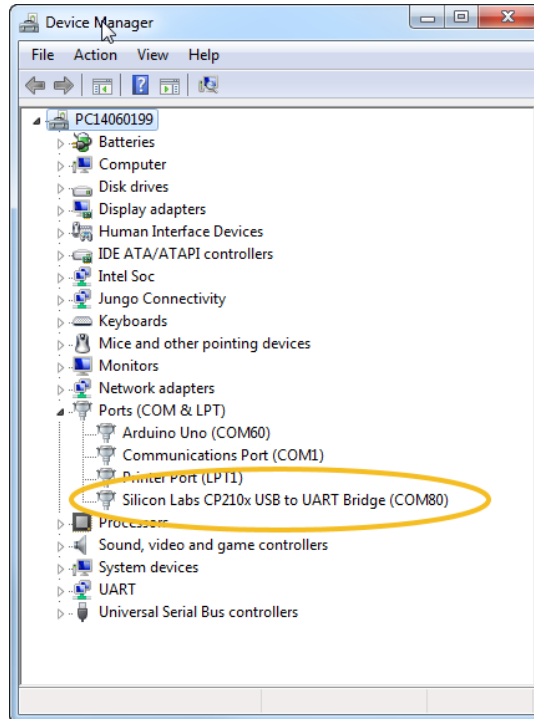

Figure 4. The COM port allocation for LinkIt 7697 HDK
- In the **Ports (COM & LPT)** section, an item named **Silicon Labs CP210x USB to UART Bridge (COMnnn)** should appear. The port number can be different on each computer. This is the COM port you'll be using to program and interact with the LinkIt 7697 HDK (see Figure 4).